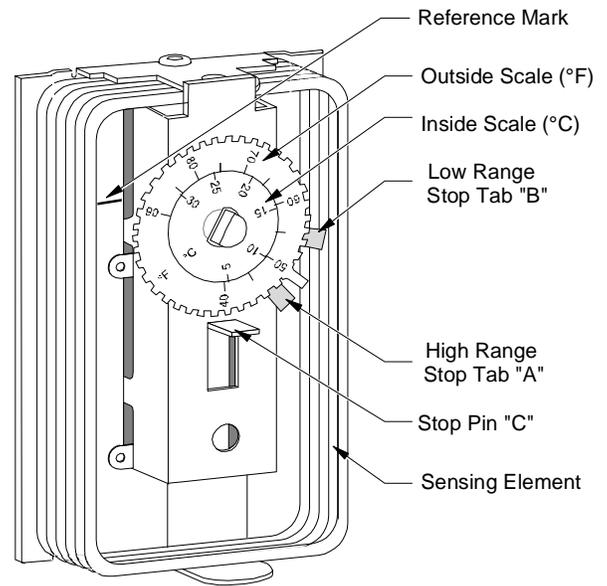

Figure 16: T46 Thermostat Range Tabs and Stop Pin
For concealed dial models (with cover removed), the desired dial setting should be lined up with the reference mark on the base of the thermostat. (See Figure 16.) This will place the desired setting at the 9 o'clock position when the thermostat is held vertically.
4. While holding the dial firmly in place, keeping the setting in line with the reference mark, depress the tab "A" (see Figure 16) and rotate it clockwise until it is against the stop pin "C".
4. While holding the dial firmly in place, keeping the setting in line with the reference mark, depress the tab "B" (see Figure 16) and rotate it counterclockwise until it is against the stop pin "C."
4. While holding the dial firmly in place, keeping the setting in line with the reference mark, depress the tab "A" and rotate it clockwise until it is against the stop pin "C." Depress the tab "B" and rotate it counterclockwise until it is against the stop pin "C." See Figure 16.